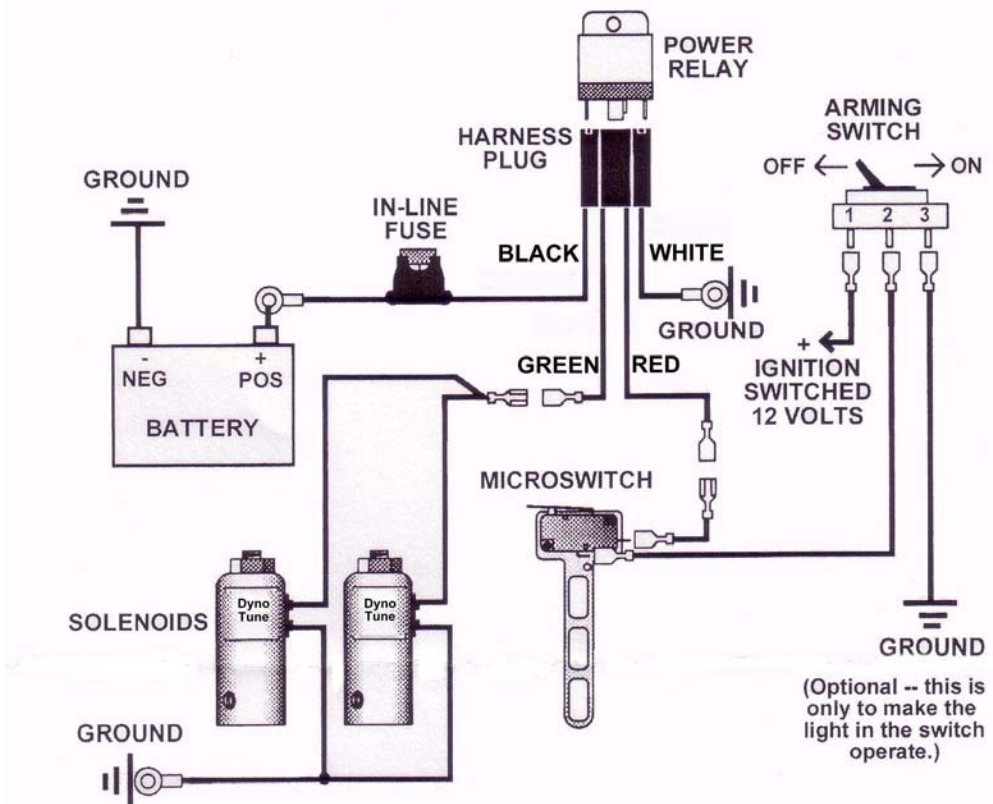

FIG. 9
Refer to figure 9 and the procedures in this section for electrical system installation. **WARNING! Death or injury may occur from working on a charged electrical system.**
- 8) Push the throttle wide open while the engine is not running, bottle closed. Each solenoid should make a clicking noise if it is working properly. If no Noise is heard, check all wiring connections and each wire in schematic per figure 9. **NOTE: Nitrous and Fuel flowing through the solenoids is needed to keep the coils from melting. Short, one second power cycles will not hurt them but more than 5 seconds with no nitrous or fuel flowing through them will melt the coils and void your warranty.**